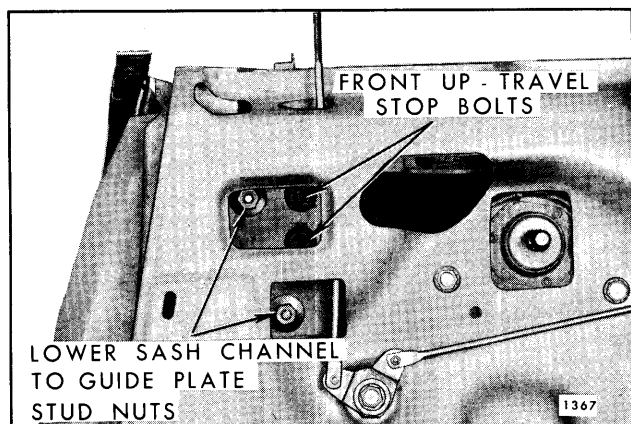

Fig. 6-101—Window Guide Plate Removal
6. Remove guide plate to lower sash channel attaching stud nuts (Fig. 6-101).